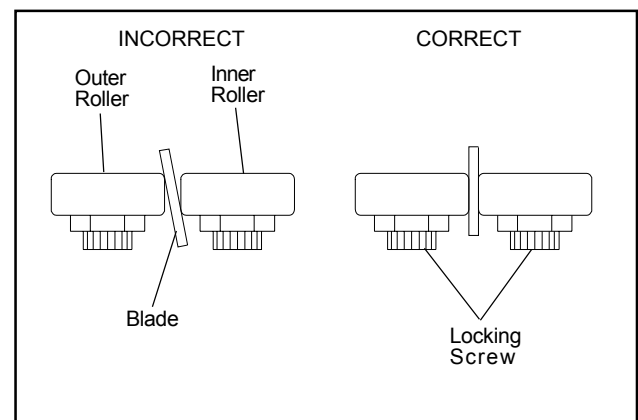

Figure 15: Blade-to-bearing orientation
4. Position the bearing by turning the bushing. Set the clearance at approximately 0.001 inch. The blade should be in a vertical position between the bearings (see figure 15).